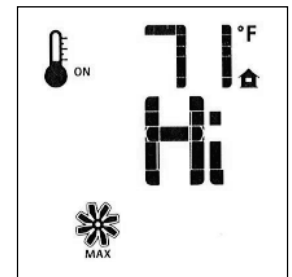

Figure 66. Fan Speed.
- Use the Up/Down Arrow Keys to turn ON, OFF, or adjust the fan speed. Fig. 66. A single “beep” will confirm reception of the command. After a 5 minute interval, the fan will power up to its highest speed and then modulate down to the established fan speed setting. The fan will continue to operate for 12 minutes after the burner is turned off. Manual speed control is not available when the SMART Thermostat is ON.